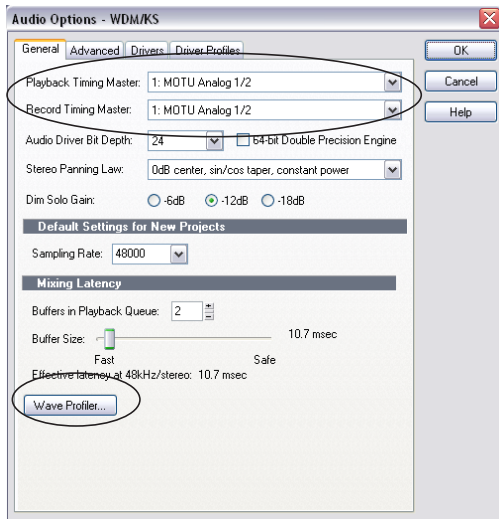

Figure 8-4: Make sure you have chosen a 896mk3 input and output for the playback and recording timing master settings.
- 2 Choose an 896mk3 input and output for recording and playback timing as shown below in Figure 8-4. It doesn't matter which input or output you choose.